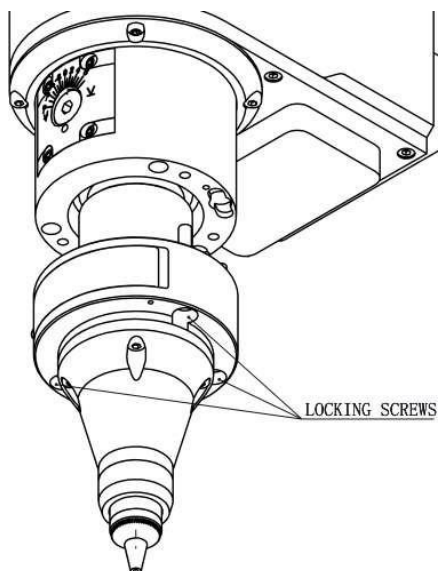

Figure 12 Removal of focus lens assembly
- Unscrew the locking screw as figure 12;